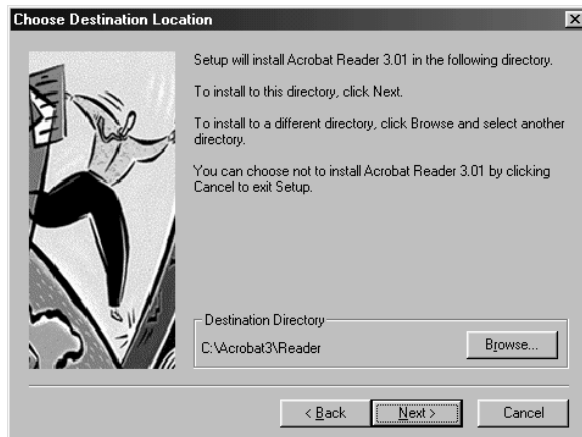

Figure 25: Determining a directory
4. Select the directory for the program installation and click on 'Next' to continue (Figure 25). The files will now be copied. Figure 25 will then pop up.